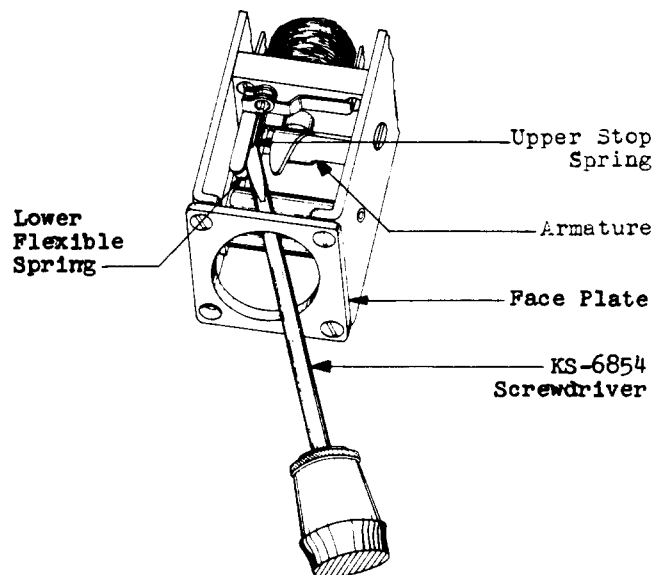

Fig. 8 — Adjusting for Contact Separation and Contact Follow
(1) The adjustments for contact separation and contact follow may be made with the relay mounted. Make these adjustments with the faceplate in position, unless more room is required, in which case, remove the faceplate. Use the KS-6854 screwdriver to remove faceplate screws.
(2) **Contact Separation:** To increase the contact separation or to decrease the contact follow, apply the blade of the screwdriver between the upper stop spring and the lower flexible contact spring as shown in Fig. 8 and exert a slight upward pressure on the screwdriver. To decrease the contact separation or to increase the contact follow, apply the blade of the screwdriver near the base of the upper flexible contact spring and exert a downward pressure, or apply the blade near the base of the lower stop spring and exert an upward pressure. When readjusting for contact separation, it is advisable to make this separation as near the minimum value as is consistent with meeting all the other requirements.